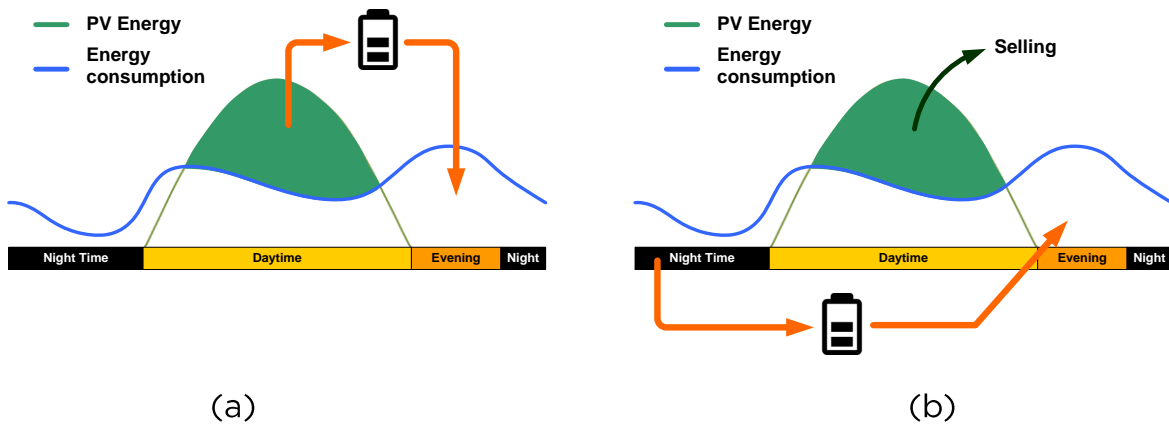

Fig. 1-1 System working diagram
This product is a Hybrid PV inverter for Energy Storage System (ESS) that converts direct current (DC) from PV array into battery and/or Grid alternating current (AC). During daytime, PV power balances load and store the remaining PV energy to battery, converts battery energy to Grid to balance load consumption during night or insufficient PV power (refer to Fig. 1-1 a). Another application is charge battery from lower electricity rate and discharge when higher electricity rate (Fig. 1-1 b). This device can be installed indoor only.